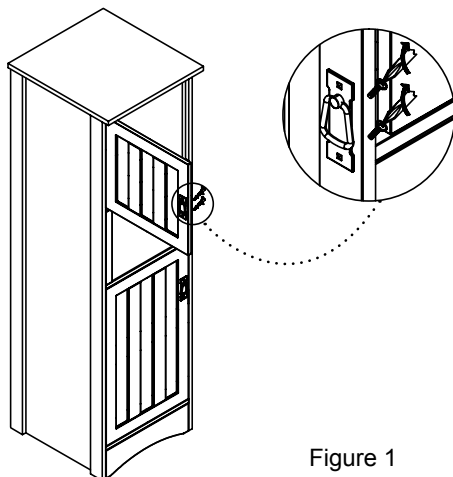

Figure 1
- 3: Attach the handle for the doors by using the 1" screws. Figure 1.